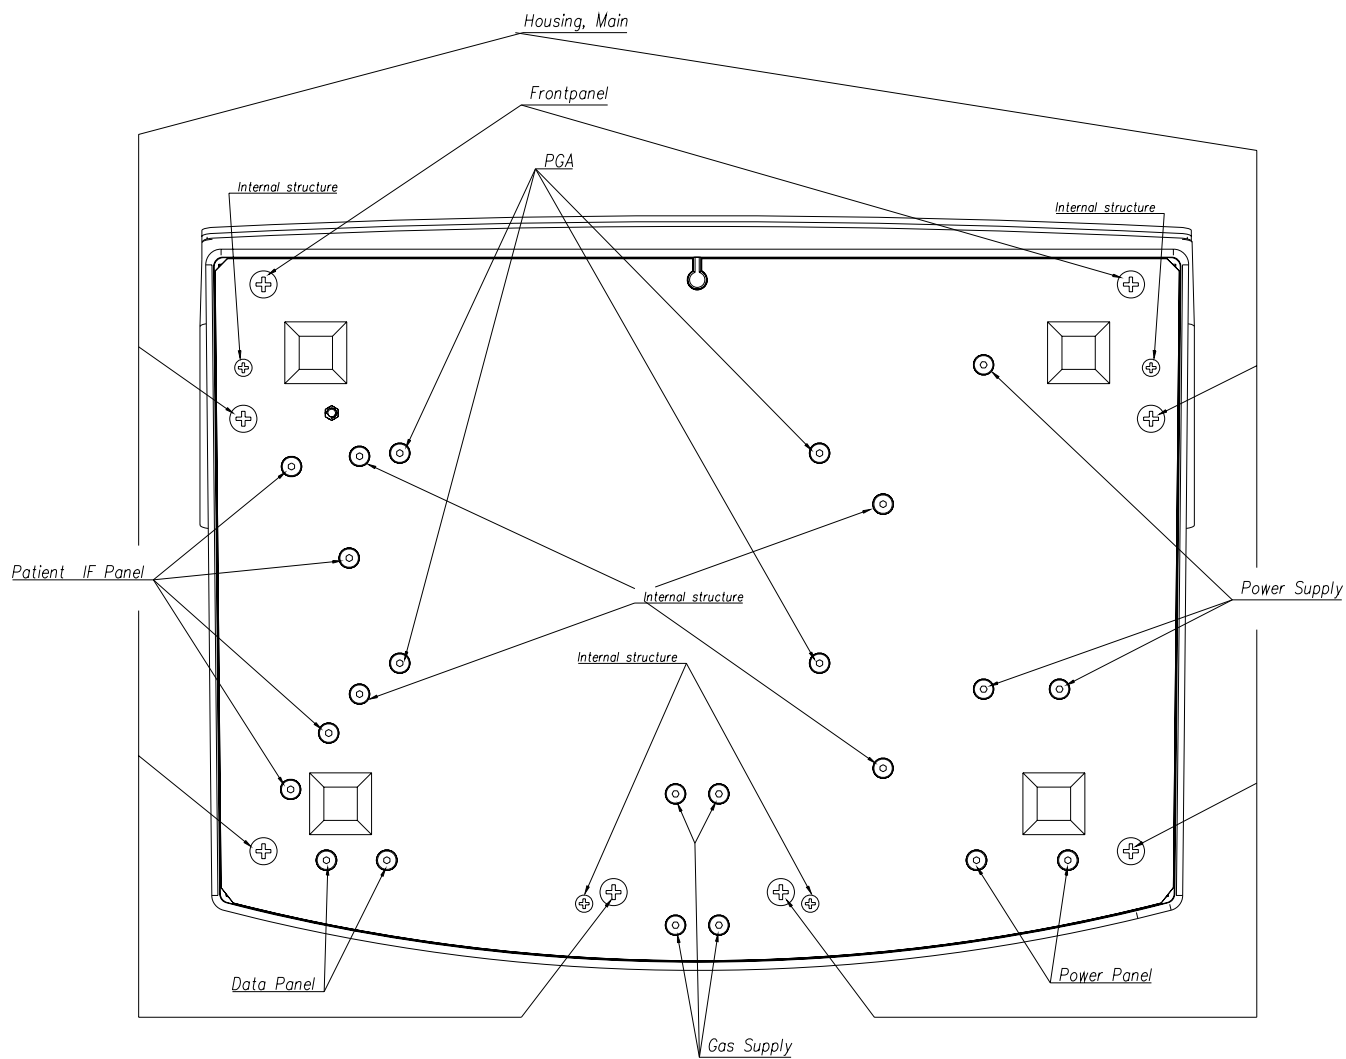

Figure 7.2-6 Location of screws on bottom plate.
Find the four PGA mounting screws located on the bottom plate (M3, unbrako). A detailed plan on the bottom plate screws can be found on figure 7.2-6. Gently loosen the screws. Always exchange the mounting screws together with the PGA.
- 4) Unscrew the two mounting screws located on the bottom plate (M3, unbrako). A detailed plan on the bottom plate screws can be found on figure 7.2-6. Gently loosen the screws. Always exchange the mounting screws together with the power supply.